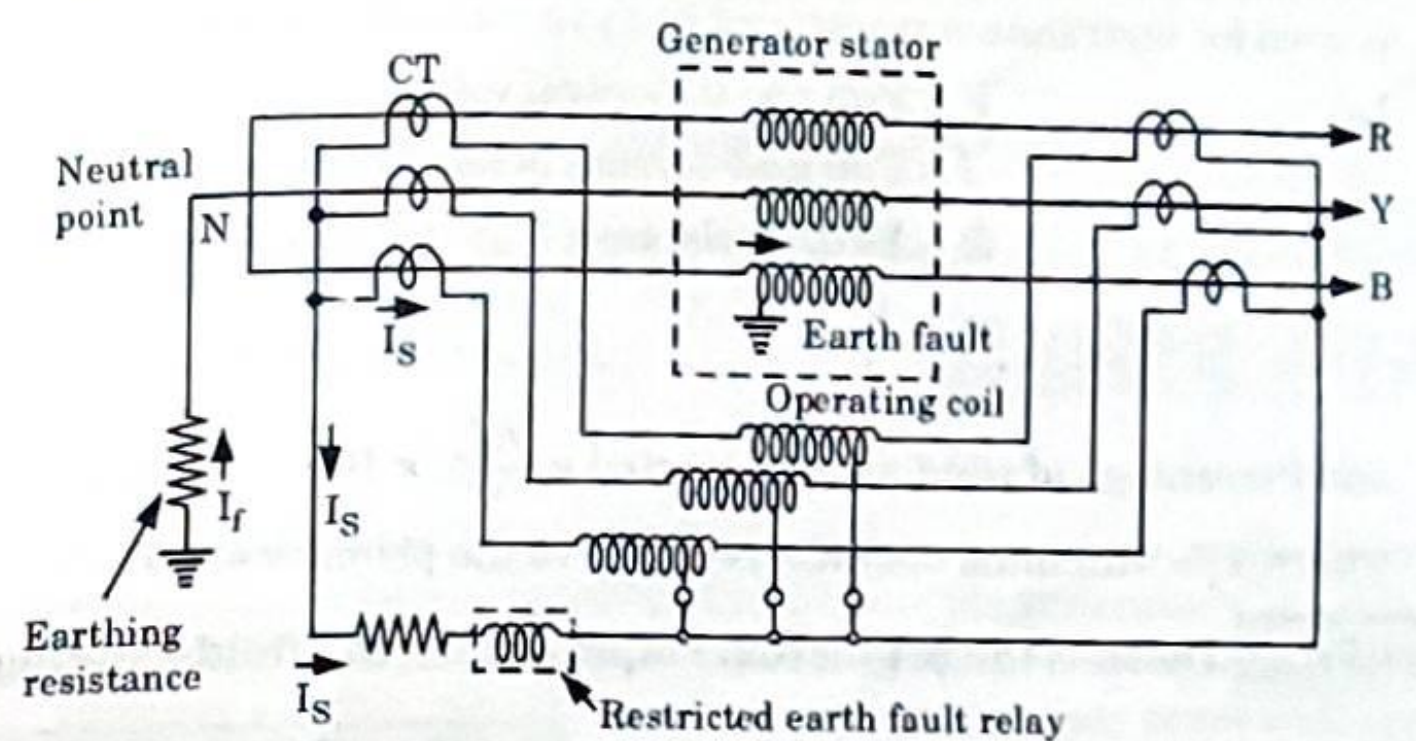

Fig. 3.5.1. Restricted earth fault protection.
- Consider that earth fault occurs on phase B due to breakdown of its insulation to earth as shown in Fig. 3.5.1.